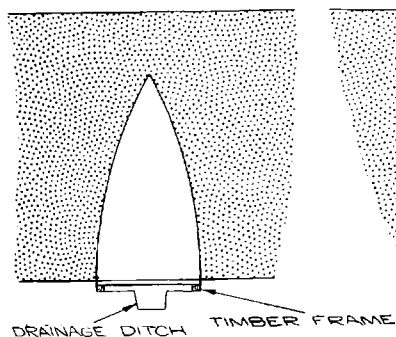
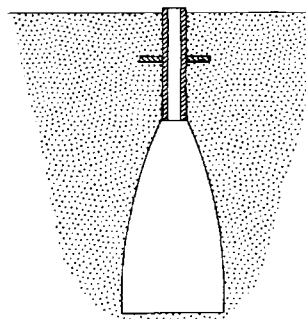

FIG. 4
FIG. 5
(4) The construction of tunnels without sheeting (figure 4). In long tunnels, ventilation must be provided by ventilation shafts, as shown in figure 5.